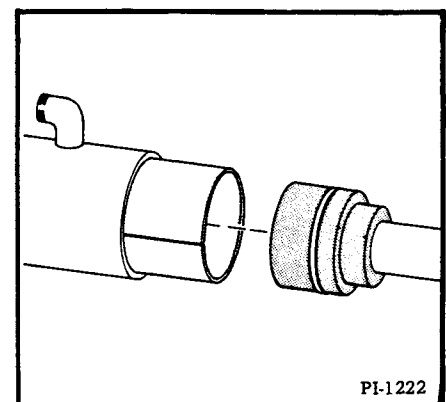

Fig. 36 Using Cylinder Repair Tool
- (1) Install the cylinder head seals and place the cylinder head carefully onto the cylinder shaft.
- (2) Install the spacer onto the shaft (lift cylinder only).
- (3) Install the piston seals and place the piston onto the end of the cylinder shaft.
- (4) Install the piston locking nut and tighten it securely.
- (5) Use the special cylinder repair tool (Fig. 36) when installing the piston into the cylinder. This tool will prevent the threads in the end of the cylinder case from damaging the piston seals.